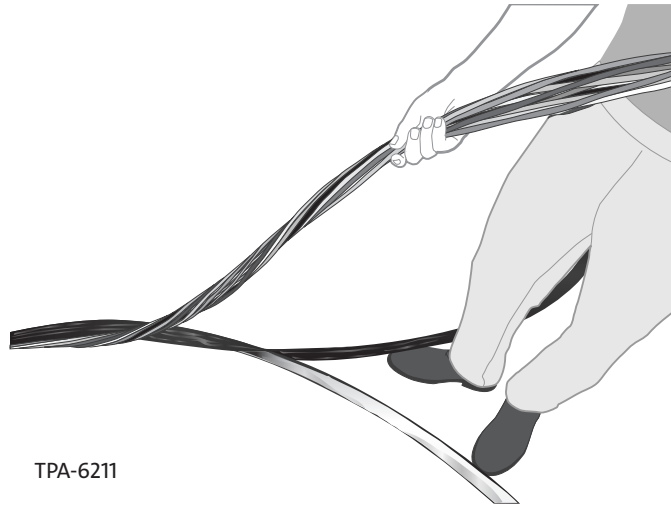

Figure 12
Step 8: Figure 12 shows the open cable with color-coded subunits.